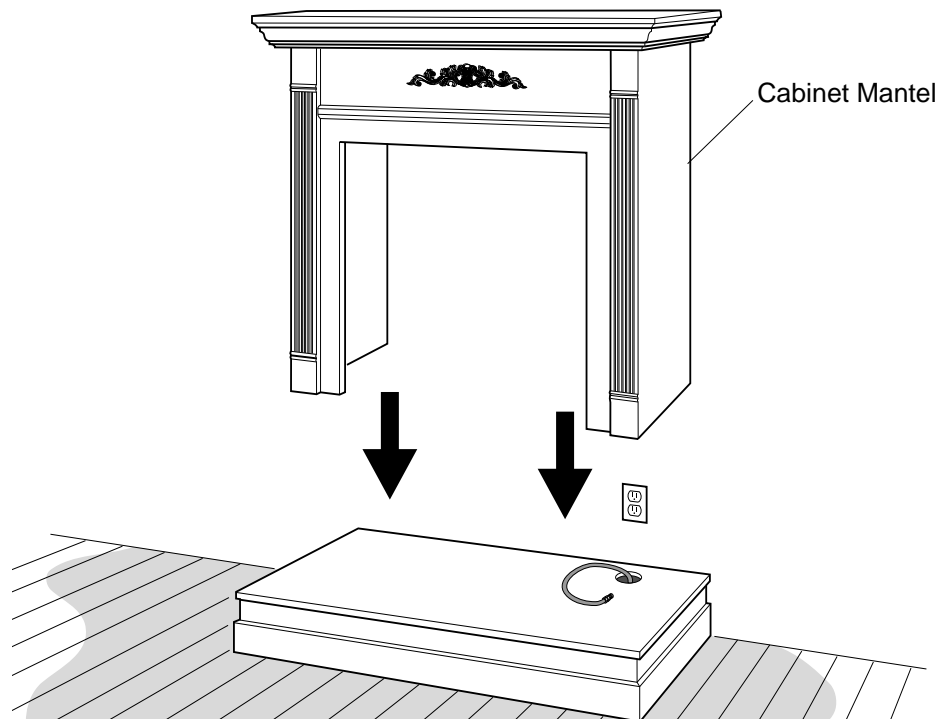

Figure 10 - Installing Cabinet Mantel
10. After heater is secured, replace mantel on hearth base (see Figure 10). Make sure mantel is flush against wall. Install brass trim (see page 10).